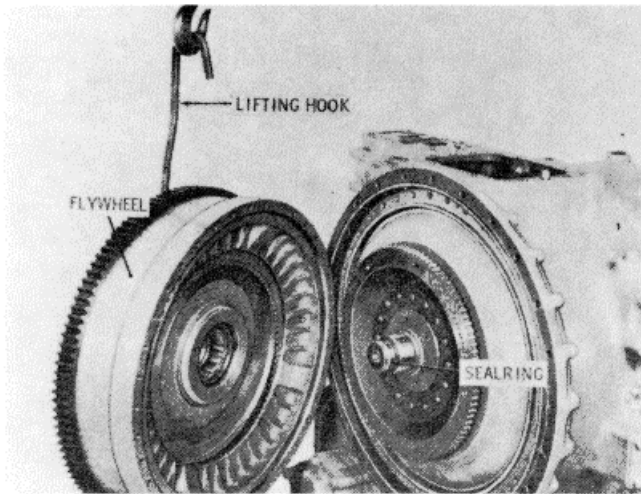

Figure 15-46. Removing Flywheel Assembly
3. Using the flywheel lifting hook (Figure 15-46), remove the flywheel assembly and position the assembly on the work table, front side downward.